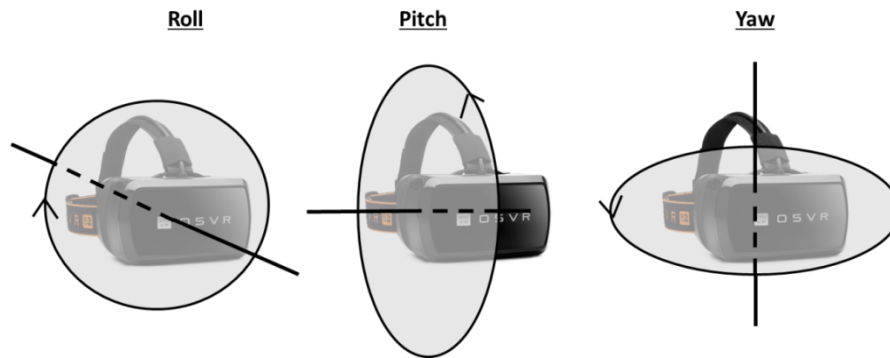

Figure 1: Headset Rotation Axes
- a. Rotate the device ~180° and back to the beginning position **in each axis** (roll, pitch, yaw) as shown in Figure 1